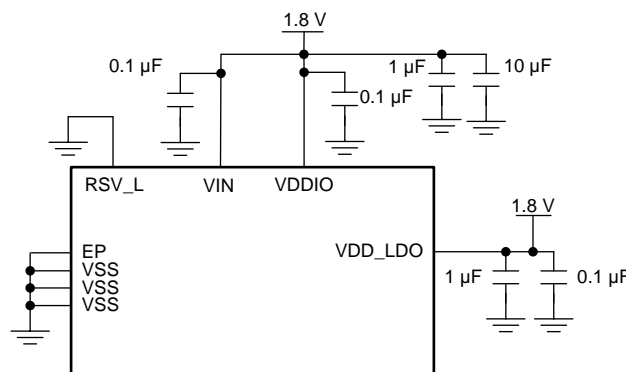

Figure 25. Single 1.8 V Supply Mode - Not Compatible with LMH1219
- Single 1.8 V Supply Mode:** This mode provides the lowest power consumption. In this mode, 1.8 V is connected to VIN, VDD_LDO and VDDIO. RSV_L is tied to VSS. In this mode, SPI is supported, but SMBus serial interface is not. *In Single 1.8 V Supply Mode, the LMH0324 is not drop-in compatible with the LMH1219.* See Figure 25 for more details.